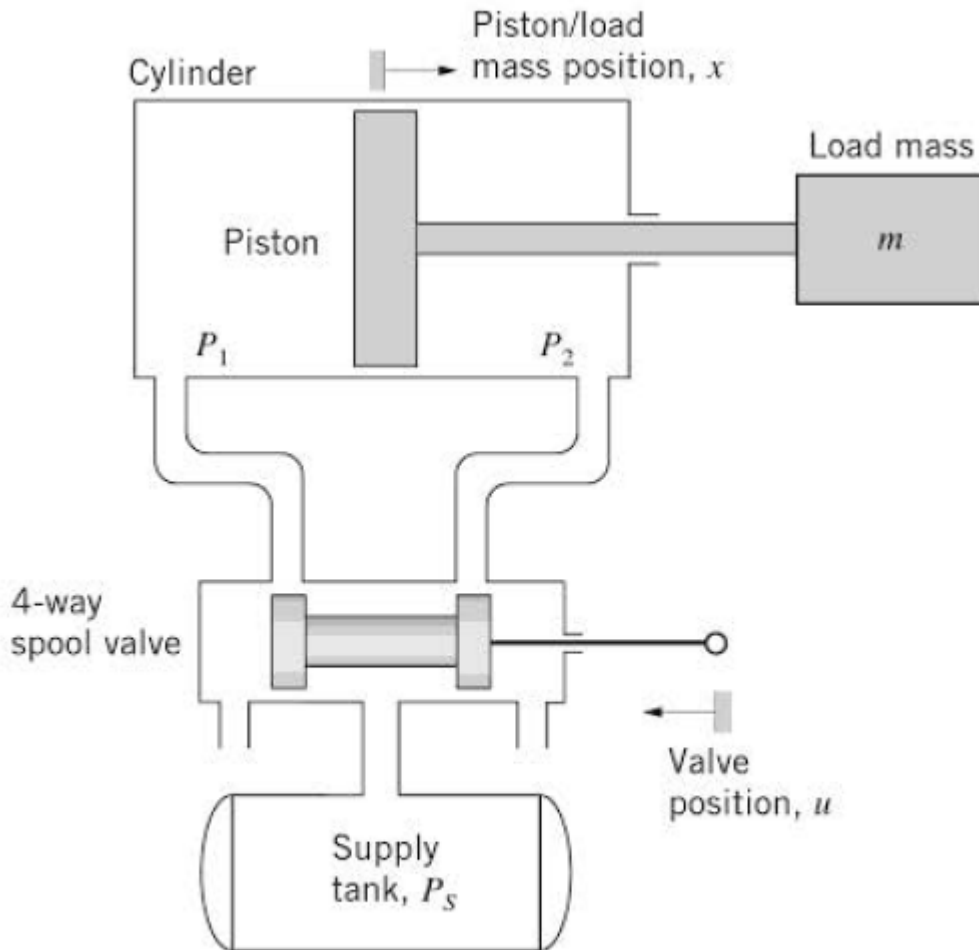

Figure P6.24
- 6.24** Figure P6.24 shows a pneumatic servomechanism [4]. The total length of the cylinder is 10 cm and the piston position x is measured relative to the mid-point of the cylinder (hence, when $x = 0$ the piston is at the middle of the cylinder). This highly nonlinear system has been linearized about a nominal pressure, volume, and piston position ($x = 0$) and the resulting system transfer function is